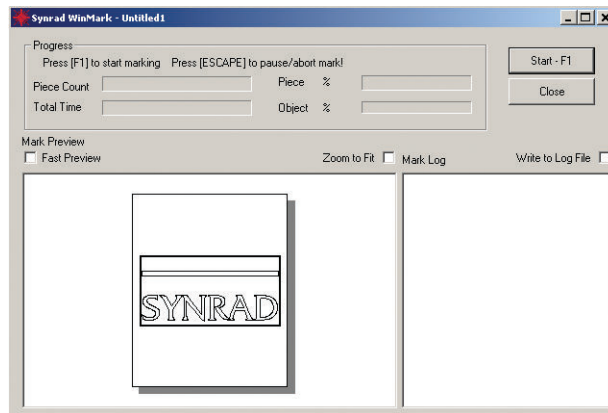

Figure 10-3 Synrad WinMark dialog box
- 7 When the *Synrad WinMark* dialog box appears (Figure 10-3), click *Start-F1*.